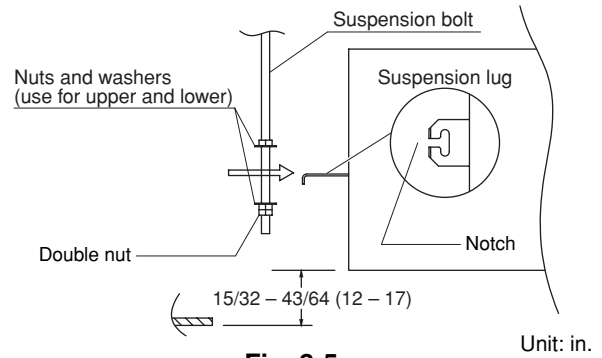

Fig. 3-5
- (2) The length of suspension bolts must be appropriate for a distance between the bottom of the bolt and the bottom of the unit of more than $19/32$ in. as shown in Fig. 3-5.
- (3) Thread the 3 hexagonal nuts and 2 washers (field supply) onto each of the 4 suspension bolts as shown in Fig. 3-5. Use 1 nut and 1 washer for the upper side, and 2 nuts and 1 washer for the lower side, so that the unit will not fall off the suspension lugs.
- (4) Adjust so that the distance between the unit and the ceiling bottom is $15/32$ to $43/64$ in. Tighten the nuts on the upper side and lower side of the suspension lug.
- (5) Remove the protective polyethylene used to protect the fan parts during transport.